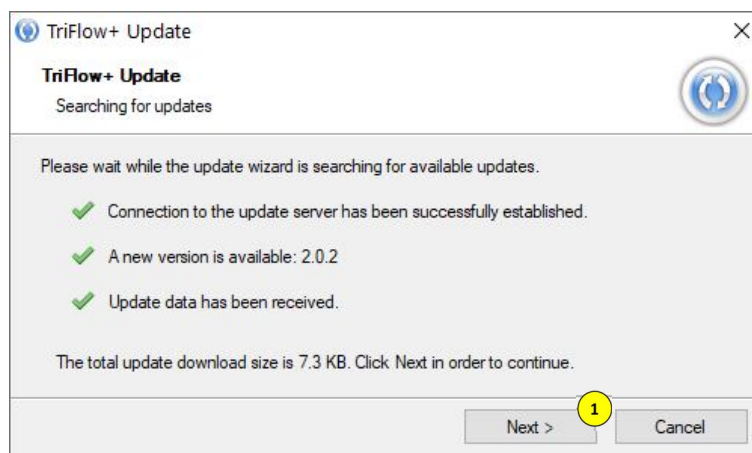

Fig. 23 Update available
If an update is available, the following window opens [Fig. 23 ]:
- Click on "Next" (1) [Fig. 23 ]